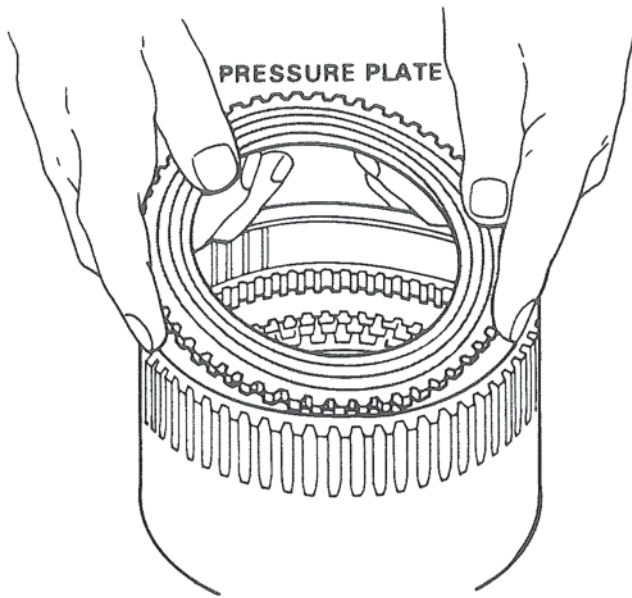

Figure 50. Installing Clutch Pressure Plate.
5. Install clutch pressure plate (front) with flat face down in contact with clutch plate. Figure 50.